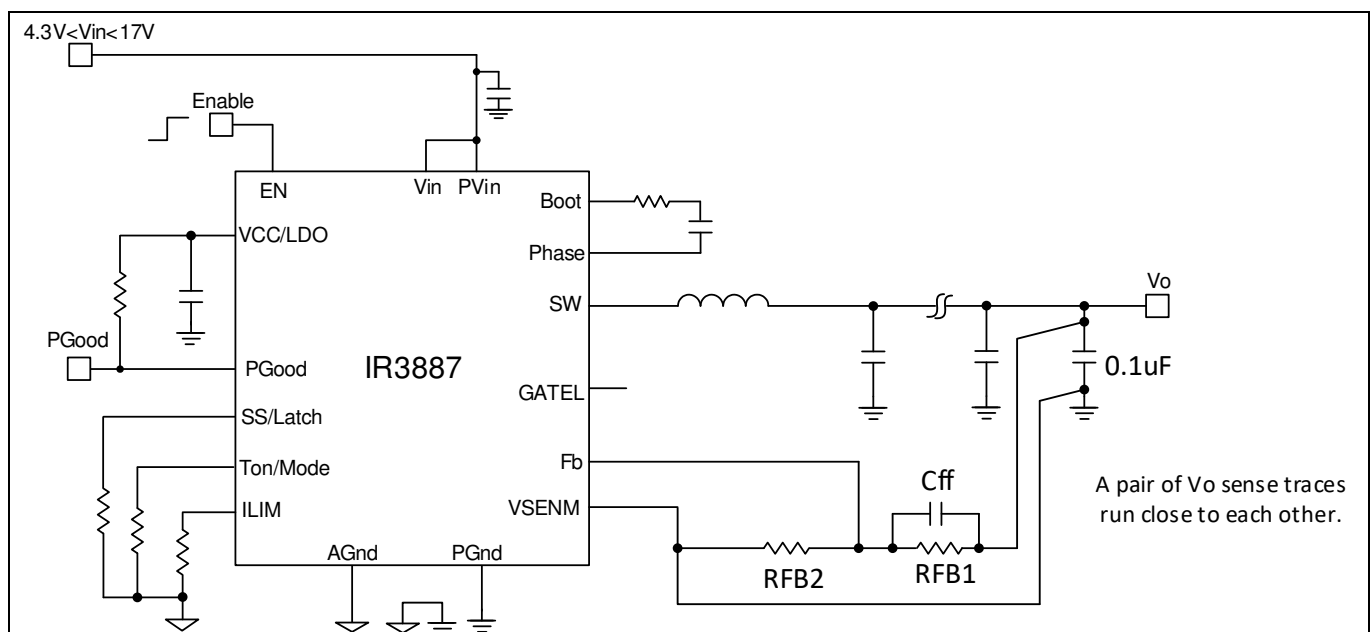

Figure 24 Pseudo remote V_o sense configuration
- If it is required to sense the output voltage at a remote location, pseudo remotng sensing can be implemented as follows. The configuration is also shown in Figure 24.